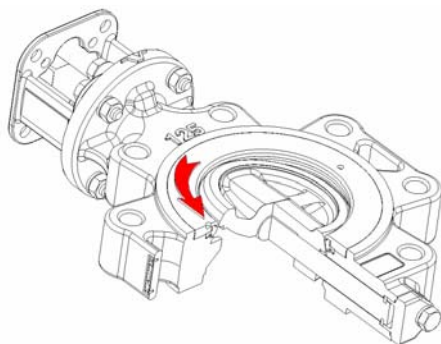
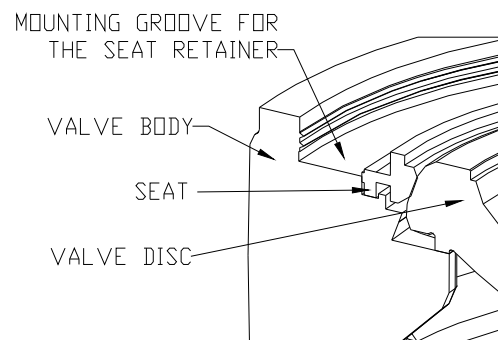

Fig.21
Fig.22
- 12.2.5. Open disc at 90° then separate the seat retainer (Fig.21), seat (Fig.22), from the body.